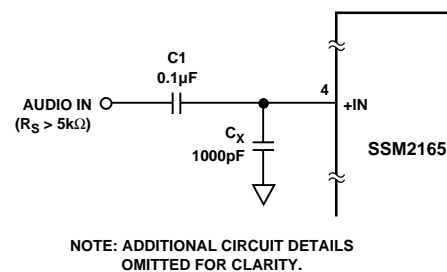

Figure 15. Circuit Configuration for Use with High Impedance Signal Sources
4. When using high impedance sources, it can be advantageous to shunt the source with a capacitor to ground at the input pin of the IC (Pin 4) to lower the source impedance at high frequencies, as shown in Figure 15. A capacitor with a value of 1000 pF is a good starting value and sets a low pass corner at 31 kHz for 5 k Ω sources.